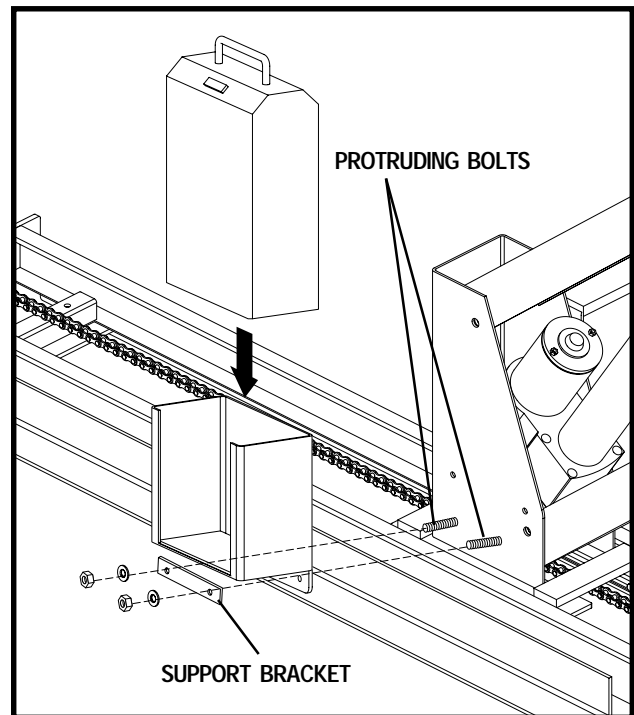

Figure 7. Onboard Battery Installation
1. Remove the rubber caps and nuts from the protruding bolts on the side of the lift motor housing. See figure 7.
2. Mount the battery case onto the protruding bolts, then install the support bracket, and secure into position with the nuts removed earlier. See figure 7.